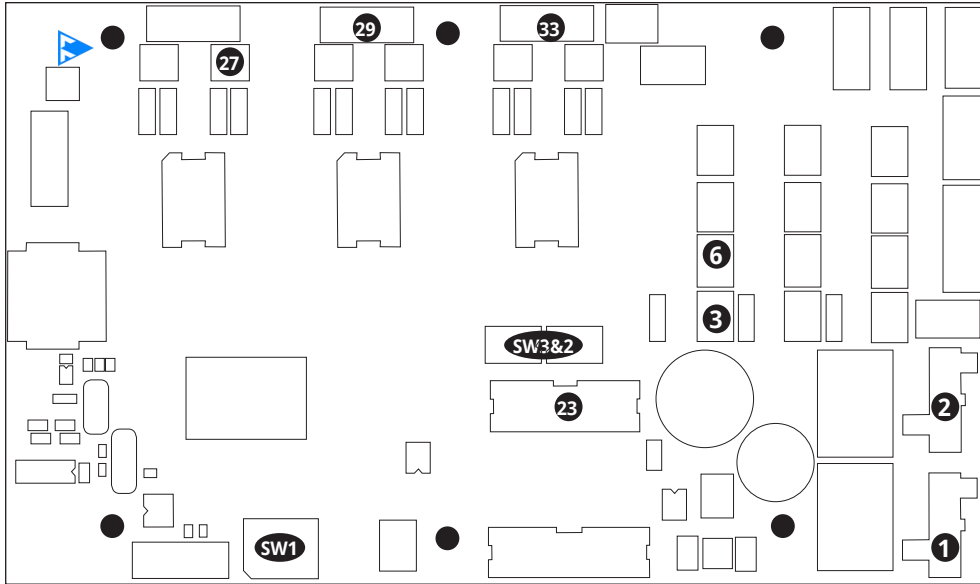

Figure 71: Board layout of Circuit board number 6.
Key to Figure 71
- 1 Switch off the device. Open the doors and the top cover. Disconnect all connectors from Circuit board number 6 (see Figure 71).
- 3 Unscrew the two (2) 3-millimeter hex socket screws that secure the module bottom plate to the crossbeam of the device chassis. Save the serrated washers.
1 Switch off the device and open the doors and the top cover. Disconnect connector 27 from Circuit board number 6 (see Figure 71).
1 Switch off the device and open the doors and the top cover. Disconnect connector 6 from Circuit board number 6 (see Figure 71).
1 Switch off the device and open the doors and the top cover. Disconnect connector 3 from Circuit board number 6 (see Figure 71).